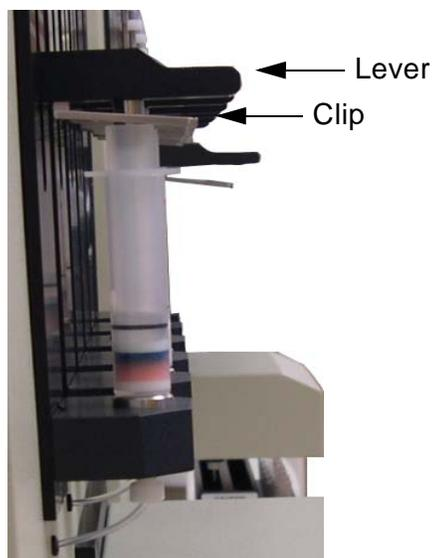

Figure 66. Column Holder - Side View
- 2 Release the column or disk holders from the fully down position by squeezing the holder's lever and clipping them together, as shown in Figure 66.